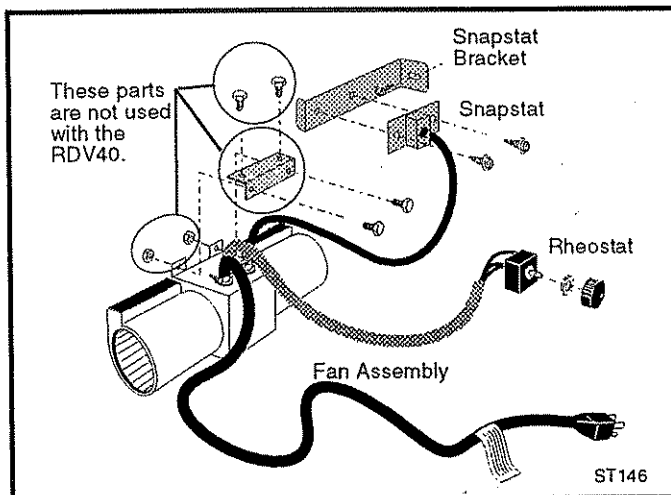

Fig. 18 Fan Kit #2767 components.
Contents: (Fig. 18)
- 4. Attach the snapstat to the snapstat bracket.** Use two sheet metal screws and one #8 star washer. (Fig. 18)